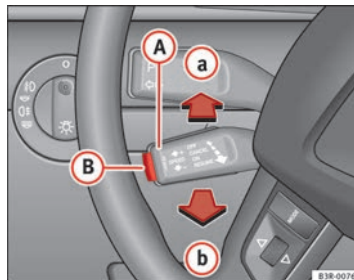

Fig. 156 Controls for the cruise control system
- Press the lever **A** \Rightarrow Fig. 156 to position **a** (click stop not engaged).